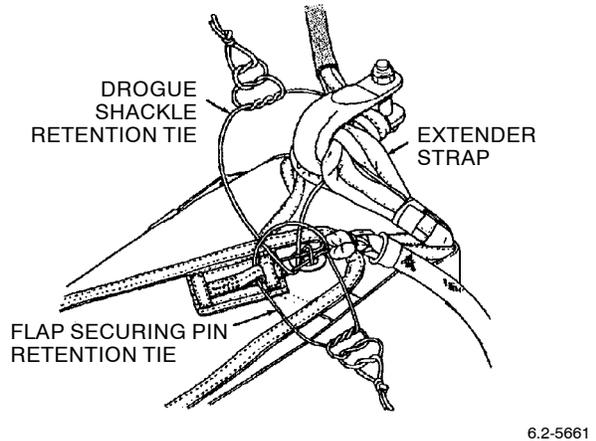

Figure 41. Retention-Tie Drogue Shackle
d. Retention-tie drogue shackle with one turn of size 6 thread, waxed and single, routed thru loop of extender strap, thru shackle, and around both legs of securing pin forward of wire loop; tie off (Figure 41). (QA)